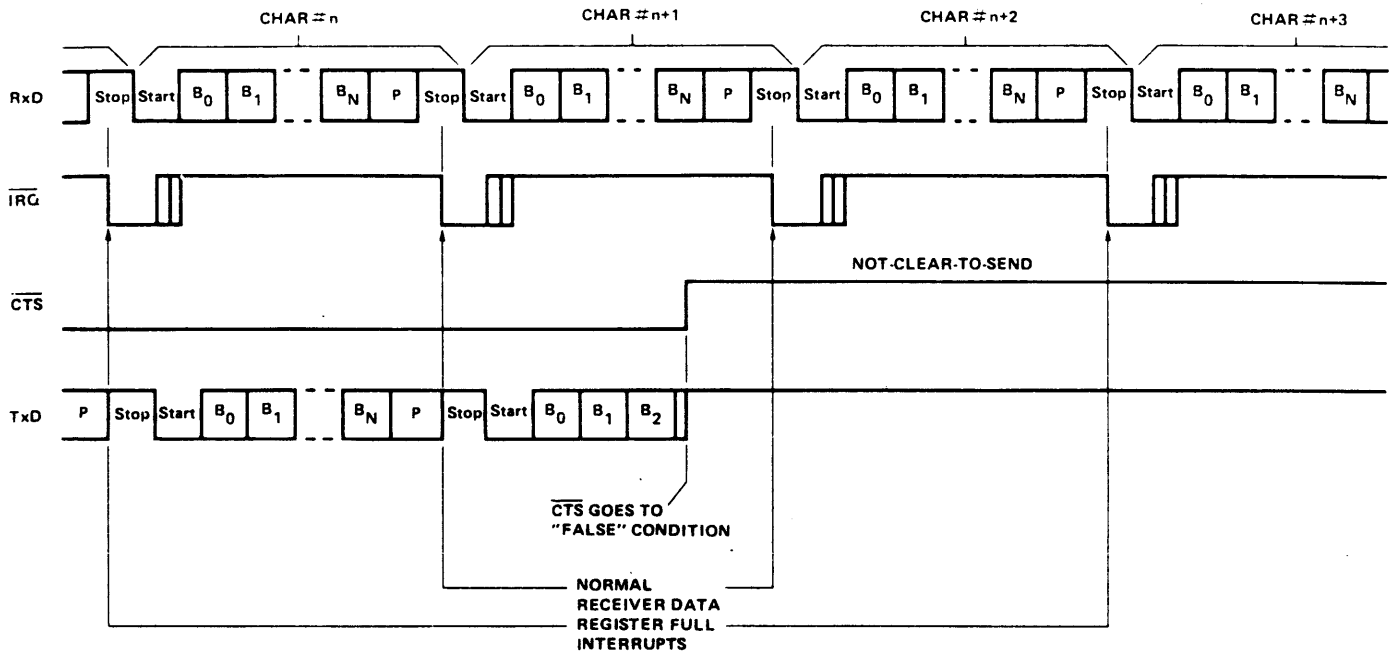

Figure 4-7. EFFECT OF CTS ON ECHO MODE
4.1.7 Effect of $\overline{\text{CTS}}$ on Echo Mode Operation (Figure 4-7)